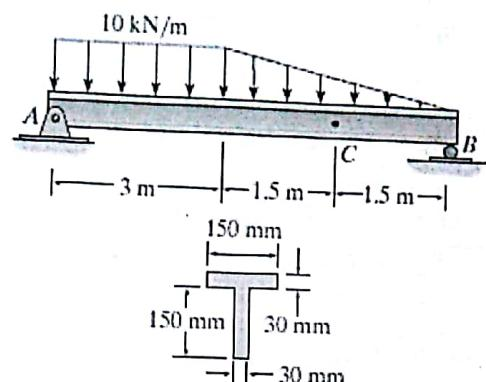

Fig. 5
- 5.** Determine the maximum shear stress in the T-beam at the critical section where the internal shear force is maximum. Determine the maximum shear stress in the T-beam at point C. Show the result on a volume element at this point. (Fig. 5)